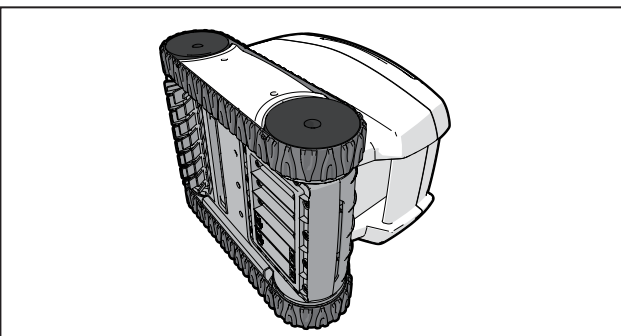

Figure 18. Stand Cleaner on its Side
1. Stand the cleaner on its side (Figure 18).